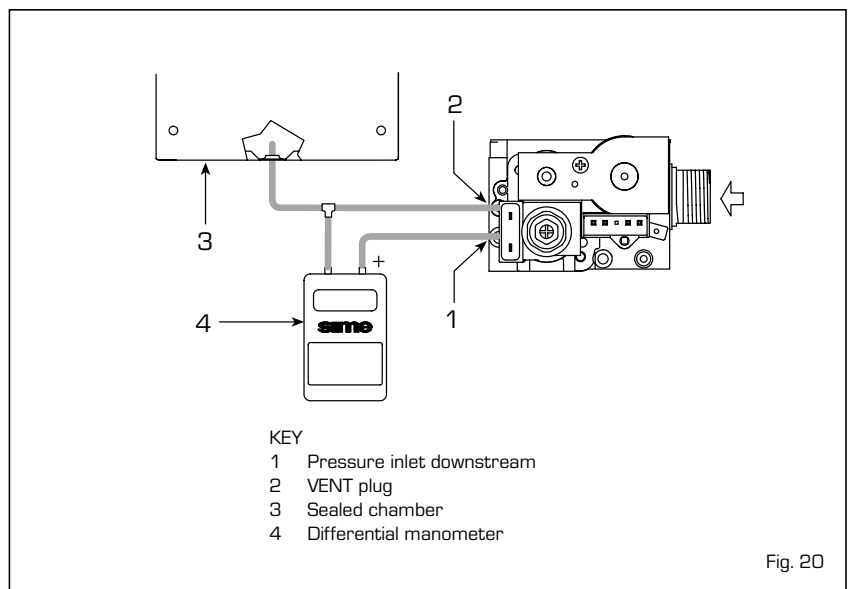

Fig. 20
- Connect the differential manometer as shown in fig. 20.
- Remove the plastic cap of the modulator (1).
- Using a \varnothing 9 wrench turn the nut (3) to find the maximum pressure as shown in *Table 6*: to reduce the pressure turn the nut anti-clockwise, to increase the pres-